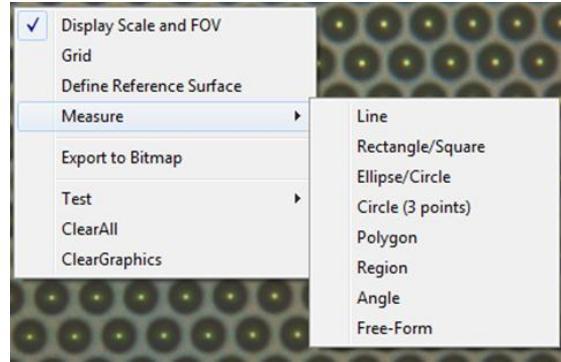
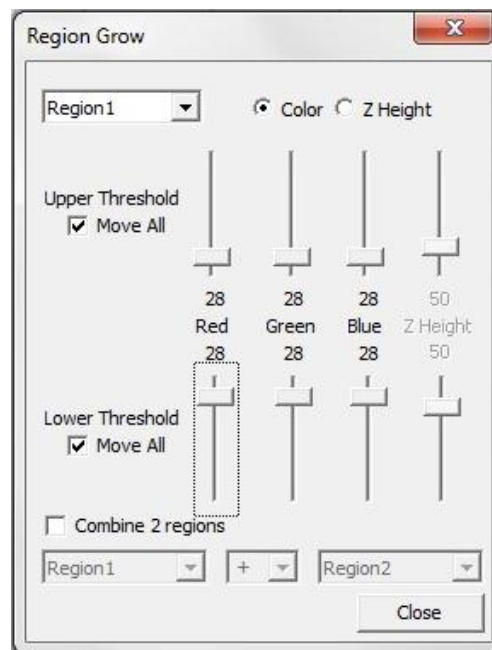

Fig. 75. 2D drawing tools menu
Fig. 76. Region Grow dialog box
2. Alternatively, right click on the 2D image to bring up the first menu shown in Fig. 75.
2. With a 2D composite image in a full-screen view, right click to bring up the menu shown in Fig. 75. Select *Measure*, then select *Region* in the drawing tools menu. A dialog box titled *Region Grow* appears, as shown in Fig. 76.